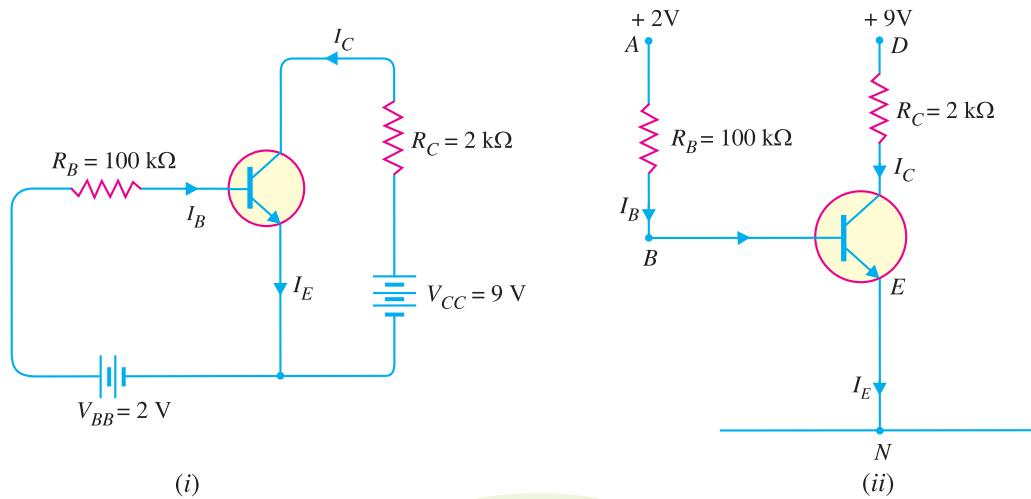

Fig. 9.7
**Example 9.3.** Fig. 9.7(i) shows biasing with base resistor method. (i) Determine the collector current  $I_C$  and collector-emitter voltage  $V_{CE}$ . Neglect small base-emitter voltage. Given that  $\beta = 50$ .
In the circuit shown in Fig. 9.7 (i), biasing is provided by a battery  $V_{BB}$  ( $= 2V$ ) in the base circuit which is separate from the battery  $V_{CC}$  ( $= 9V$ ) used in the output circuit. The same circuit is shown in a simplified way in Fig. 9.7 (ii). Here, we need show only the supply voltages,  $+2V$  and  $+9V$ . It may be noted that negative terminals of the power supplies are grounded to get a complete path of current.
(i) Referring to Fig. 9.7 (ii) and applying Kirchhoff's voltage law to the circuit  $ABEN$ , we get,